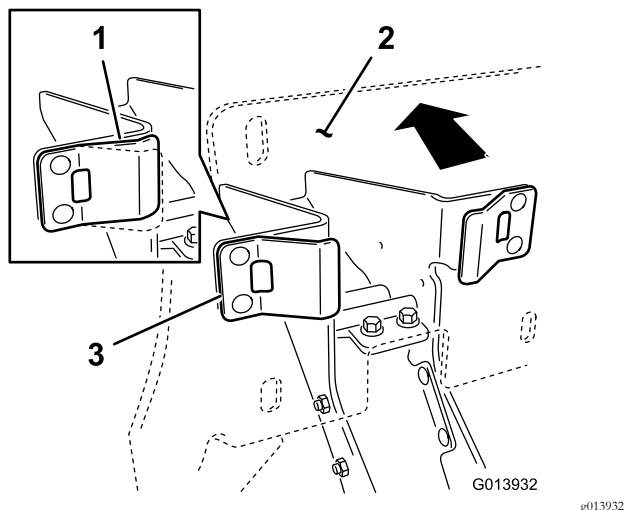

Figure 19
4. Making sure that the plastic stops are in contact with the spring tabs, apply enough pressure against the back plate assembly of the cradle to compress the spring tabs midway (Figure 19).